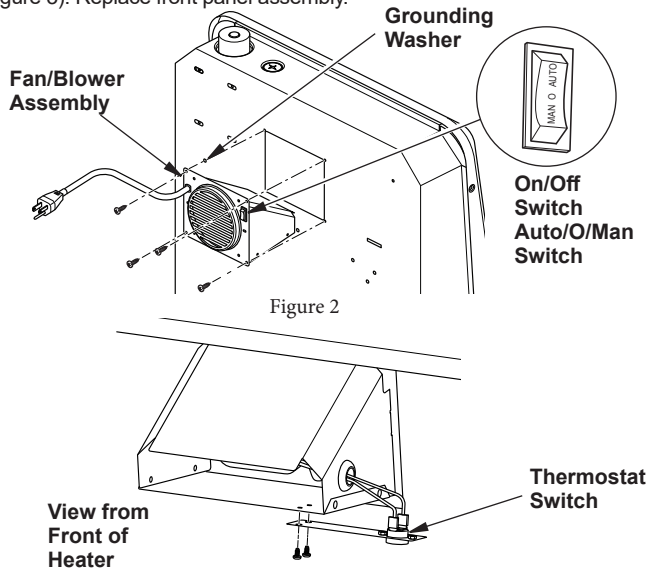

Figure 3
3. Attach thermostat switch to top of fan/blower using 2 provided screws (see Figure 3). Replace front panel assembly.